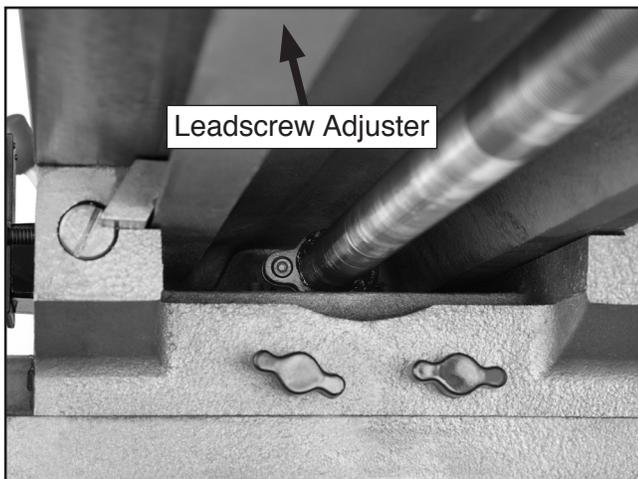

Figure 41. X-plane leadscrew adjuster.
1. Locate the X-plane leadscrew adjuster under the middle of the table. The head on the adjustment screw faces to the right (**Figure 41**).